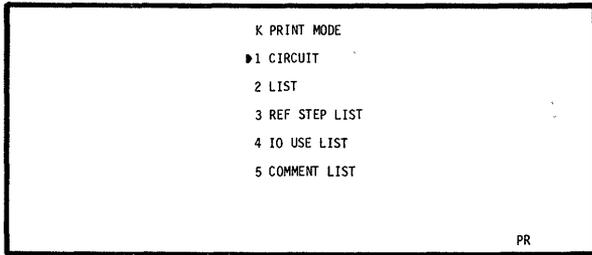

Fig. 14.7
- The displayed screen changes as described below depending on the setting in Fig. 14.7.